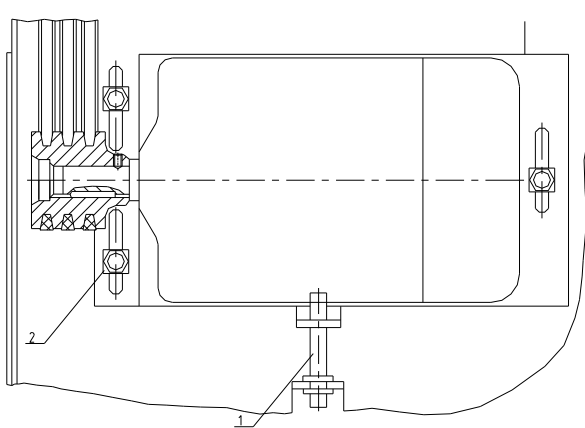

Fig.6-13. Adjustment the main drive V-belts tension
6.2.10.ADJUSTMENT THE MAIN DRIVE V-BELTS TENSION (SEE FIG.6-13)